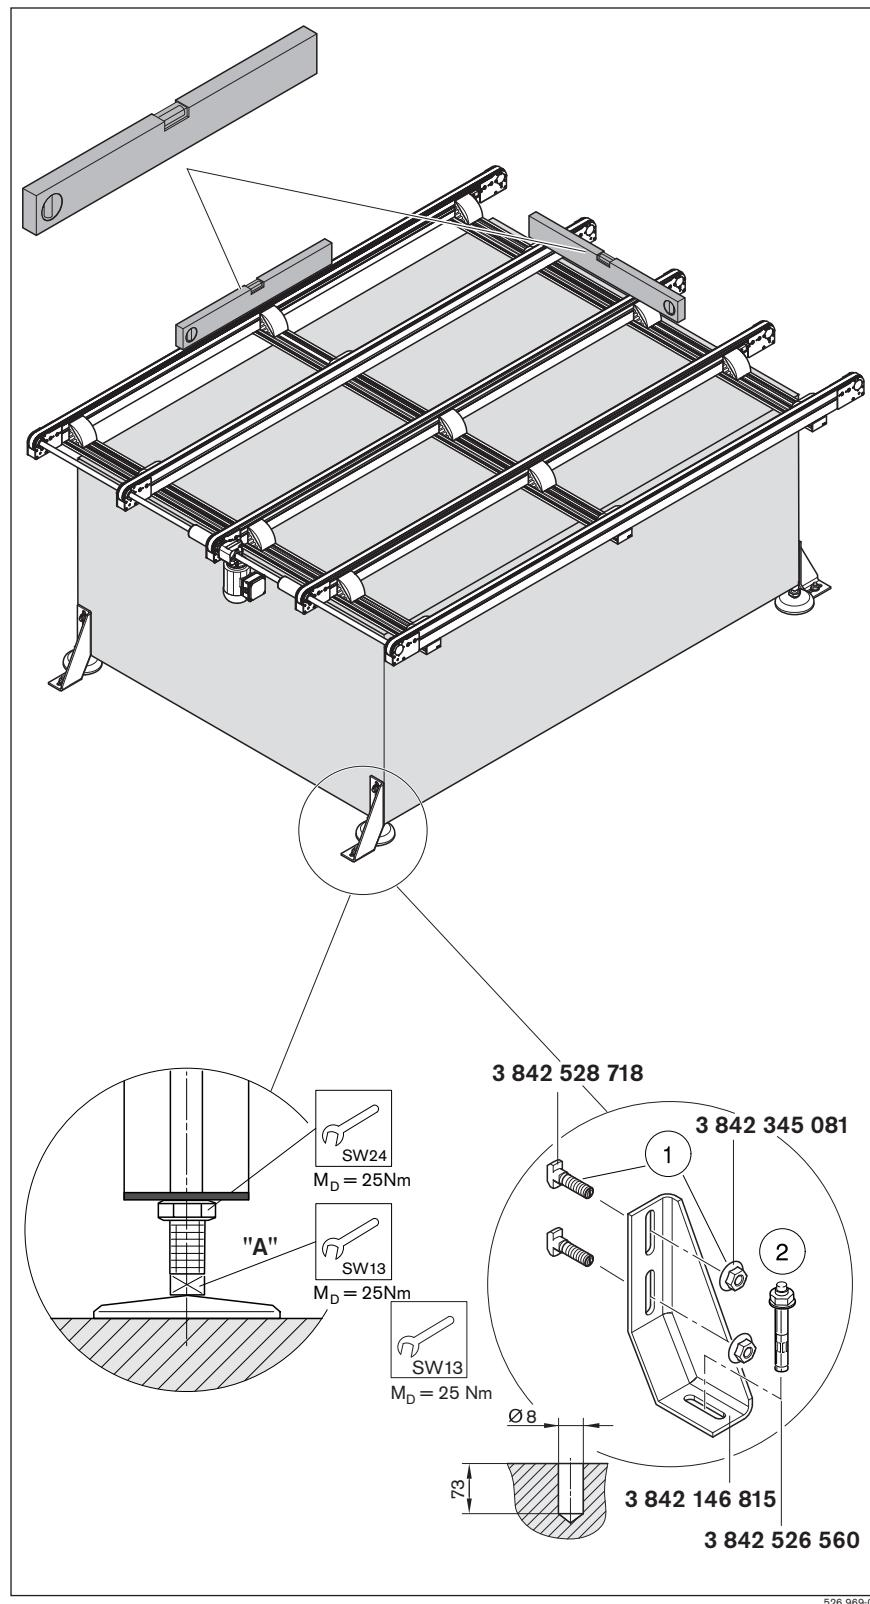

Fig. 9
- ▶ Connection cable option: **3 842 409 645** (M20x1.5), see "Fig. 9" on page 22. Pay attention to the ballast fuse!